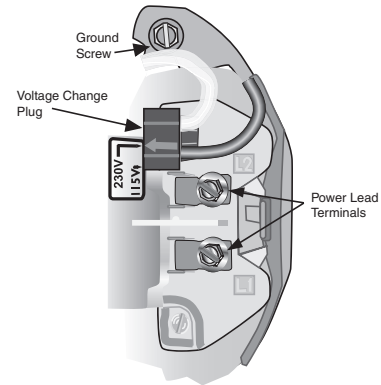

Figure 7: Voltage set to 230 volts, Plug Type
3. The motor's voltage configuration will match one of the two styles shown in Figures 7 and 8.
4. If your motor's configuration matches the **plug type voltage selector** in Figure 7, pull the plug straight up.
6. Connect current carrying conductors to terminals L1 and L2 under motor canopy. When replacing motor, check wiring diagram on motor nameplate against Figure 7 and 8. If the motor wiring diagram does not match either diagram in Figure 7 and 8, follow the diagram on the motor.